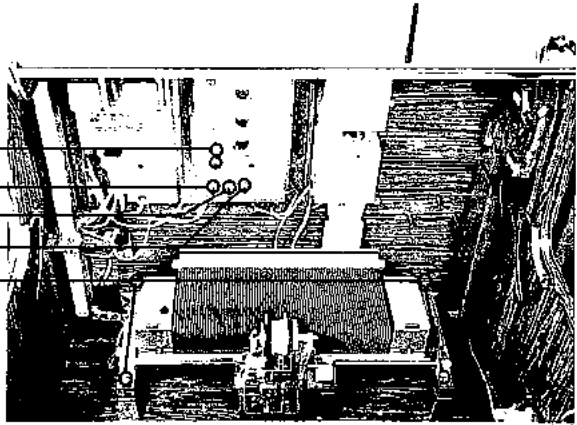

Fig. 4
6. To loosen carriage base, unscrew four nuts (figure 4). The Nuts should clear the Carriage Base by at least 1/8 inch.